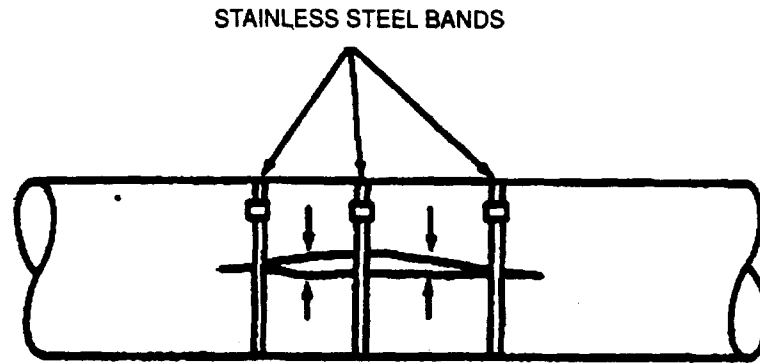

Figure 4-3. Typical Stainless Steel Band Installation on Discharge Horn
- d. If necessary, use stainless steel bands to hold the repaired area as shown in Figure 4-3.